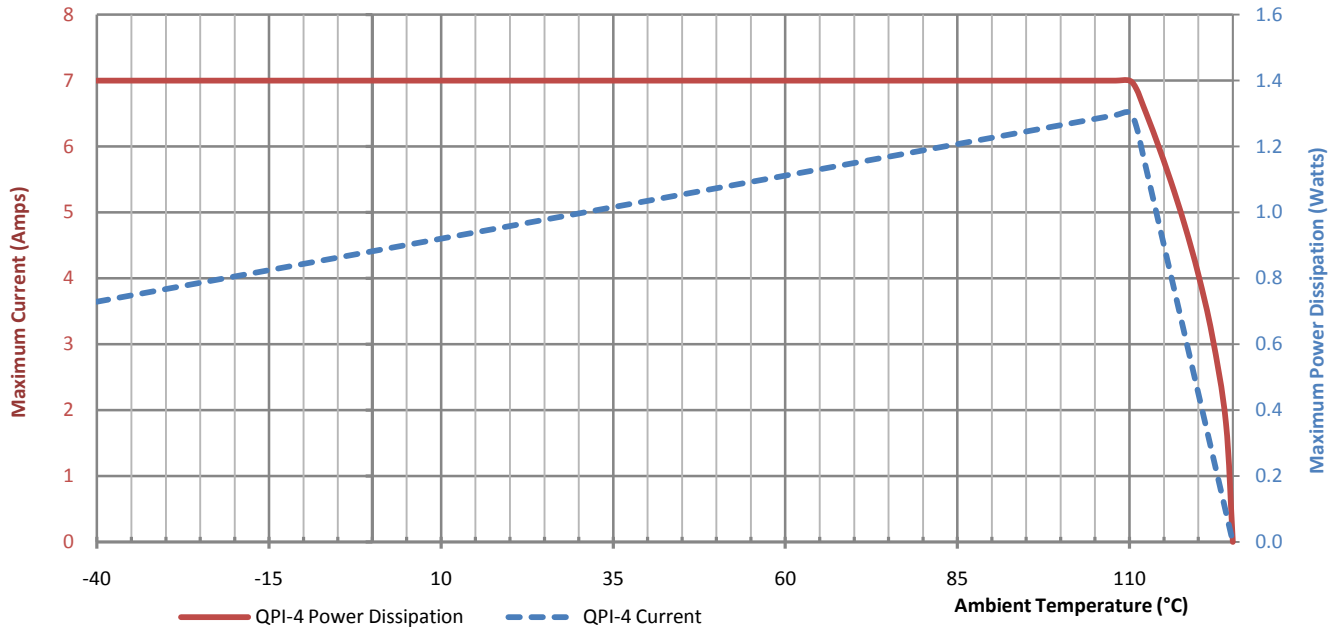

Figure 10 - Current de-rating and power dissipation over ambient temperature range.
- -40° to +125°C Ambient temperature (see Figure 10)
Note 2: See Figure 10 for the current de-rating curve.
The de-rating curve in Figure 10 is based on the maximum allowable internal component temperature and the 7 A maximum rating of the QPI-4. The power dissipation curve is based on the current squared multiplied by the internal